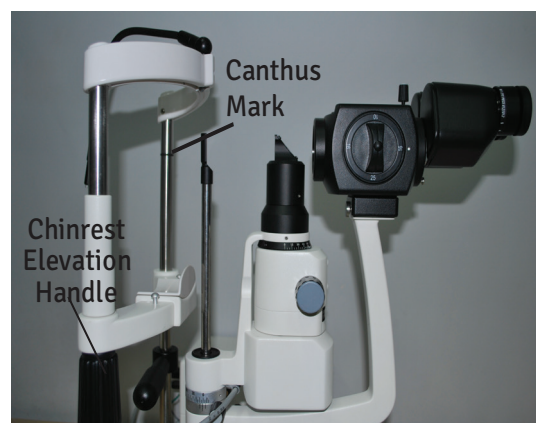

Figure-13 Adjust Patient Height
6. To position a patient, adjust the chinrest height by turning the Chinrest Elevation Handle on the post of the Chin Rest Assembly until the patient's canthus is in line with the canthus mark on the chin rest post. Refer to figure-13.